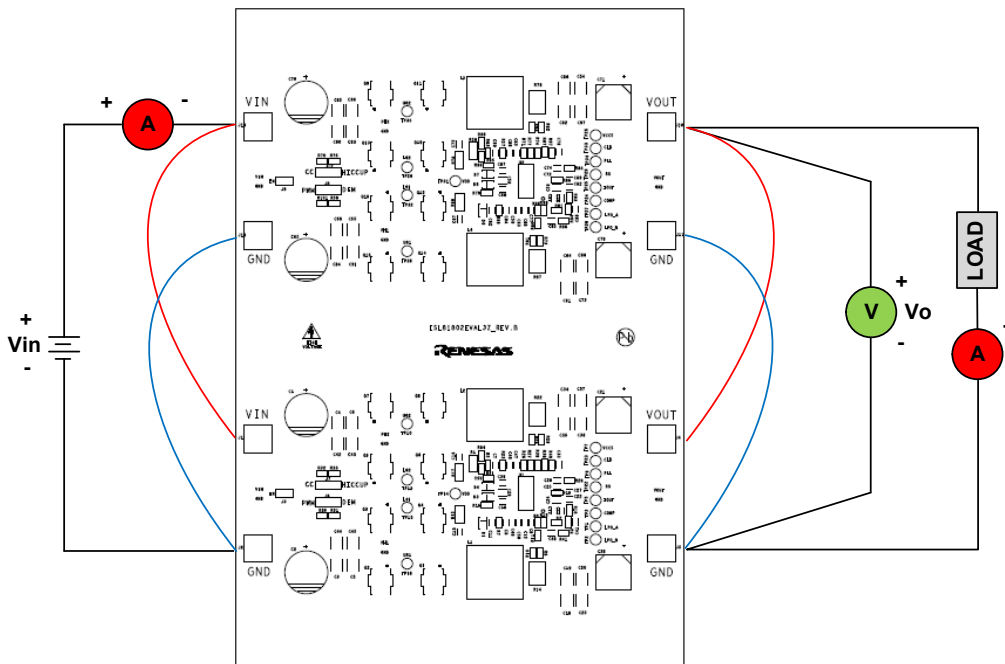

Figure 2. Proper Test Setup
As shown in Figure 2, 18V to 80V VIN is supplied to J1/J13 (+) and J2/J14 (-). The regulated 12V output on J4/J10 (+) and J5/J11 (-) can supply up to 40A to the load. Because of the high power efficiency, the evaluation board can run at 40A continuously without airflow at room temperature ambient conditions.
1. Jumper J6 provides the option to select PWM or DEM. Jumper J7 provides the option to select constant current limit or HICCUP. See Table 2 for the operating options. Ensure that the circuit is correctly connected to the supply and electronic loads before applying any power. See Figure 2 for proper setup.